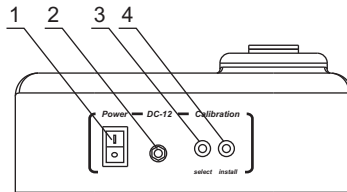

Fig.1 Rear panel
Plug the external power supply unit into the 12 V socket at the rear side of the unit (fig. 1/2).
- 3.4.1. Switch ON (position I) the unit with the **Power** switch (Fig.1/1) on the rear panel.
- 3.4.2. Press the **Select** button (fig.1/3) on the rear panel (use a thin pin of maximum diameter 2 mm for pressing the **Select** and **Install** buttons). A flashing "0.5" indication will be shown on the display, showing that the unit is ready to save calibrations value of the first point 0.5 McF.
- 3.4.4. Press the **Install** button using a pin (fig.1/4). First point "0.5" will be saved in the unit memory and the next calibration value will be displayed (flashing 1.0 indication will be displayed).
- 4.2. Switch ON the unit using the **Power** switch (Fig. 1/1) on the rear panel (position I).